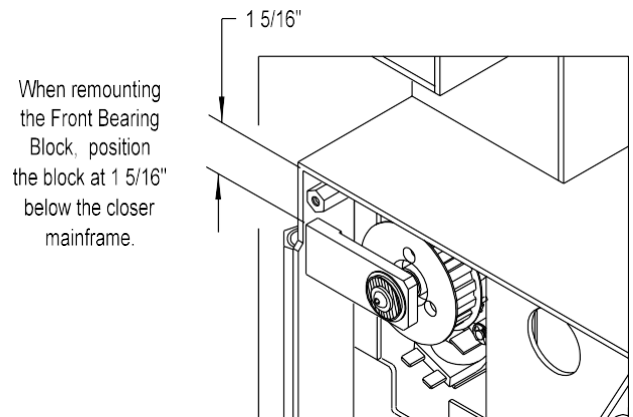

Figure 4.8
9. Remove the clutch assembly from the front of the closer. When remounting the front-bearing block, set the distance between the top of the bearing block and the closer mainframe at 1 5/16" (33.3mm). Pull the block forward by hand while tightening the mounting screws, to compress the wave spring and load the clutch shaft bearings (Figure 4.8).
7. Remount the Front Bearing Plate. Before tightening the mounting screws, set the distance between the top of the Bearing Block and the closer mainframe at 1 5/16" (33.3mm). Refer to figure 4.8.